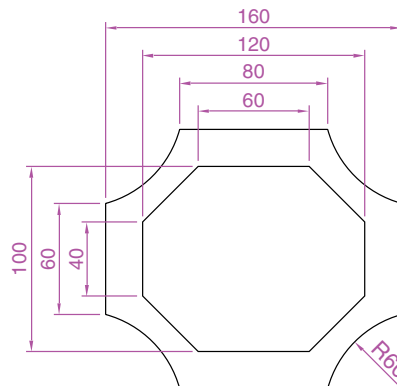

Fig. 3.40 Exercise 9
9. Construct the drawing in Fig. 3.40 using the **Line** and **Arc** tools. Then, with the aid of the **Multiple prompt** of the **Edit Polyline** tool, change the outlines into plines of **Width = 1**.